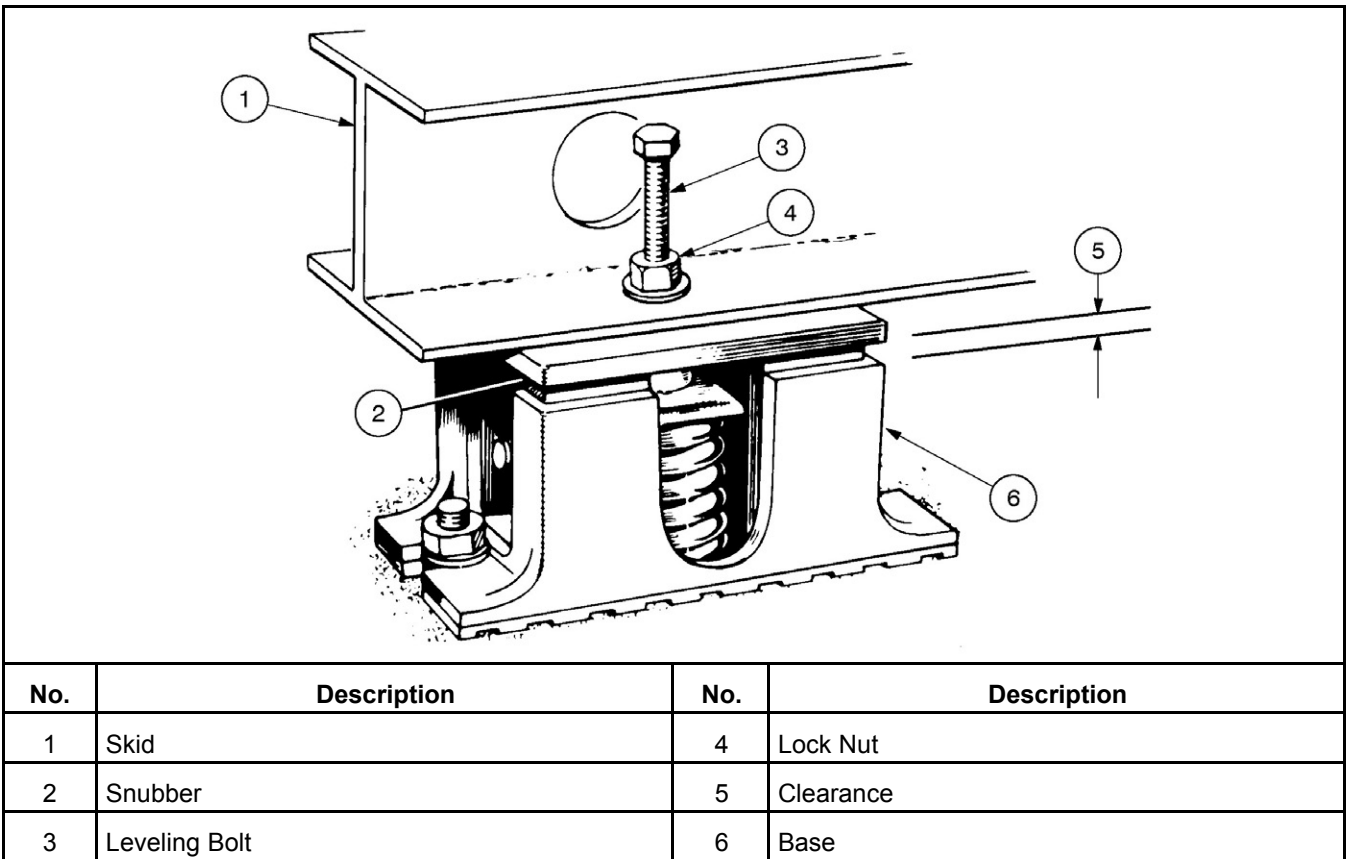

FIGURE 9. VIBRATION ISOLATOR INSTALLATION
1. Place the vibration isolators (see Figure 9) on the generator set support structure. The isolators should be shimmed or grouted to make sure that all of the isolator bases are within 6 mm (0.25 inches) elevation of each other. The surface that the isolator bases rest on must also be flat and level.